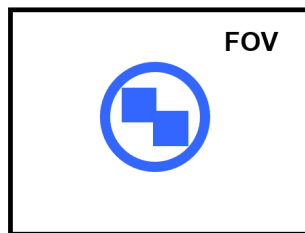

Figure 12 - Aiming Function
3. Release the button to enter the Aim function. The aiming system turns on, see Figure 12.